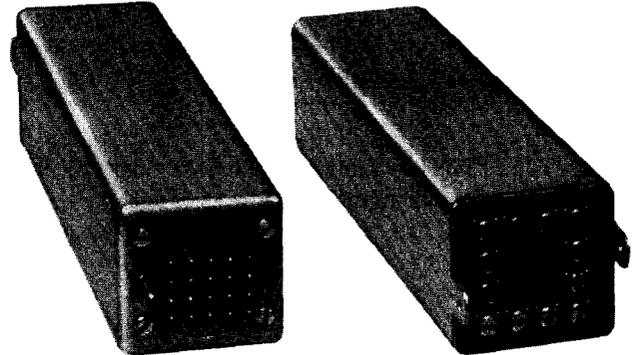

Fig. 1—359H Equalizer
2.01 The 359H equalizer (see Fig. 1) is a plug-in unit equipped with a 20-pin connector designed to be plugged directly into the equalizer socket of a repeater mounting shelf.